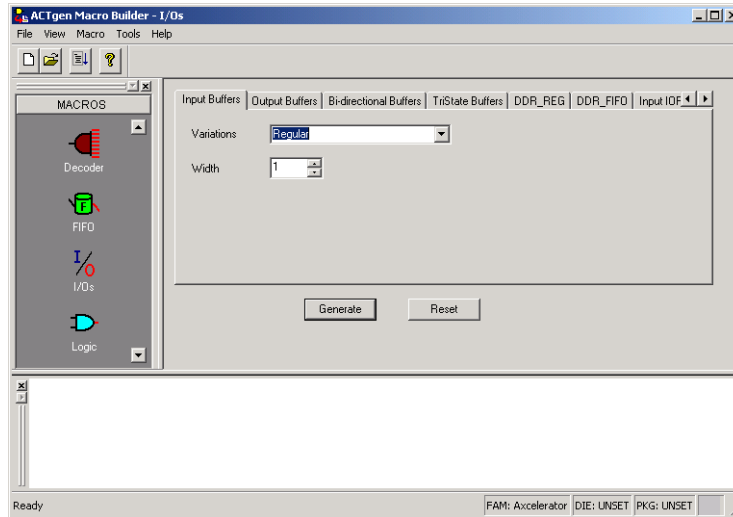

Figure 4 • I/O Options
- At this point the user has six configuration options (Figure 4 on page 3). Again, this document provides information on the basic options – input, output, bidirectional, and tristate buffers. See the separate sections below for details. If further information on PerPin FIFO and DDR configuration is needed, please refer to the *Using the Axcelerator PerPin FIFOs* application note.
- Select the Input Buffers tab (see Figure 4 on page 3).